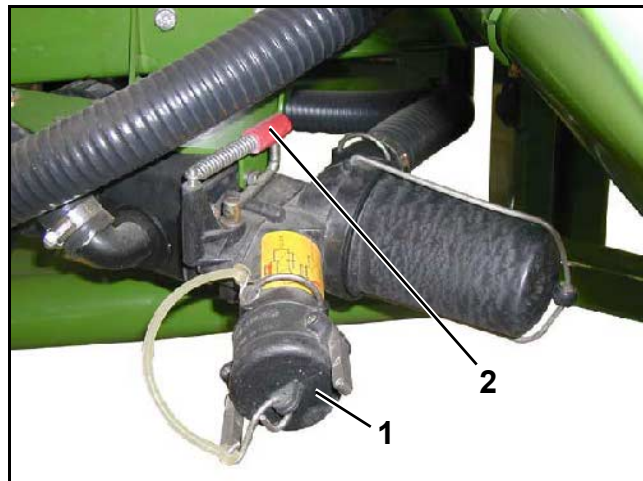

Fig. 147
- Connect the suction hose with the aid of the quick coupling with the relevant suction joint (Fig. 147/1) of the filter tap.
- Set the operating lever (Fig. 147/2) on the filter tap to position **"filling"**.